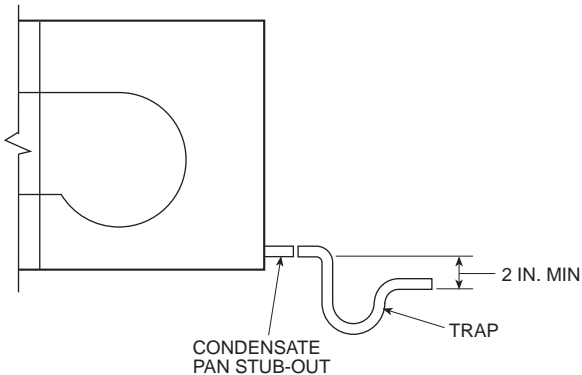

Fig. 10 — Drain Trap
- The differential inlet-to-outlet height must be at least 1 in. wg greater than the total static pressure of the unit. The differential height of the outlet to the bottom of the trap must be equal to or greater than the total static pressure of the unit. Provide a trap of at least 2 in. near the end of the drain line to prevent odors. See Fig. 10.